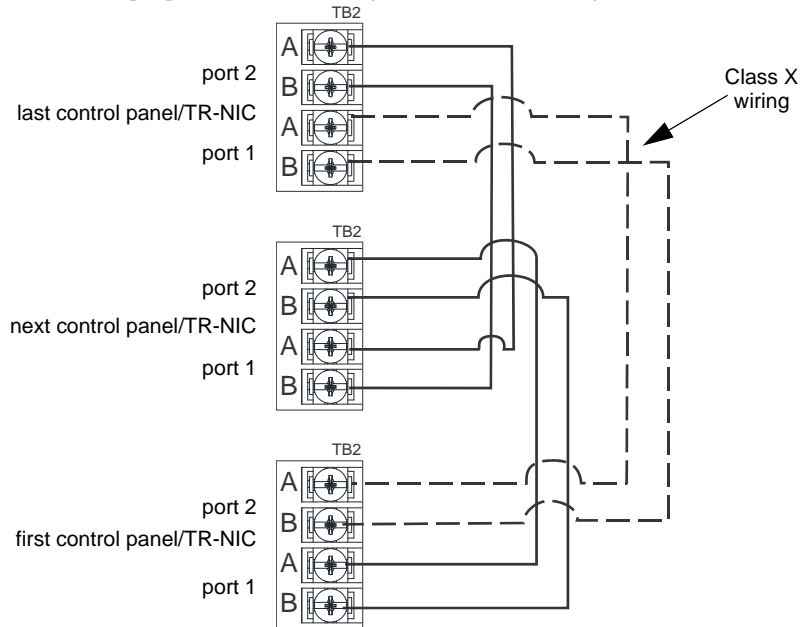
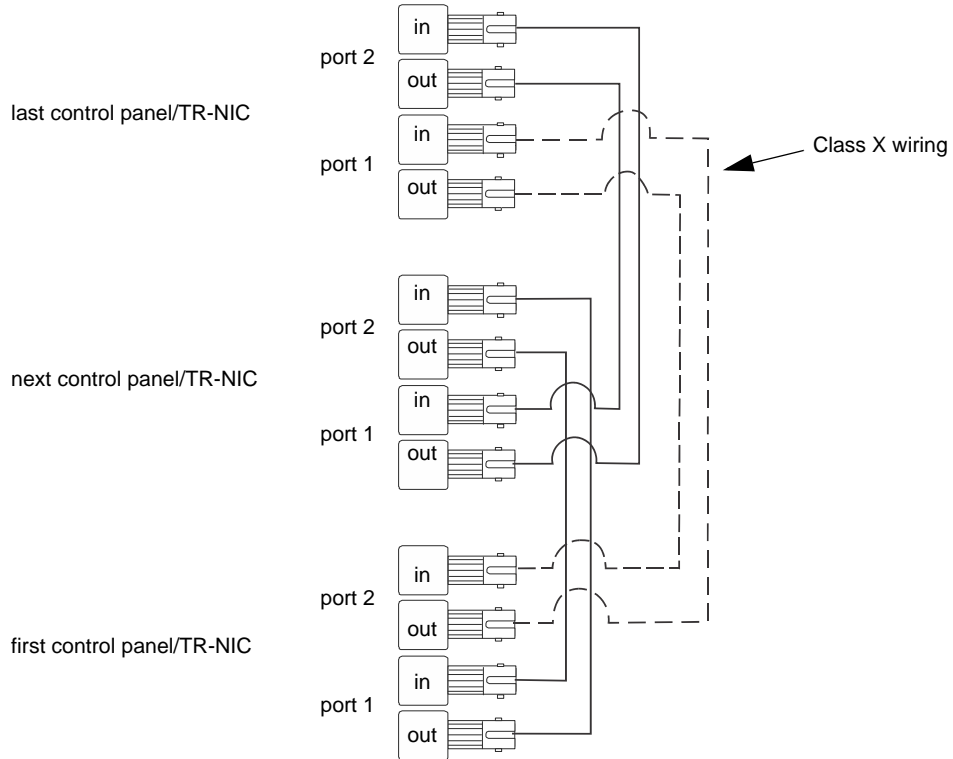
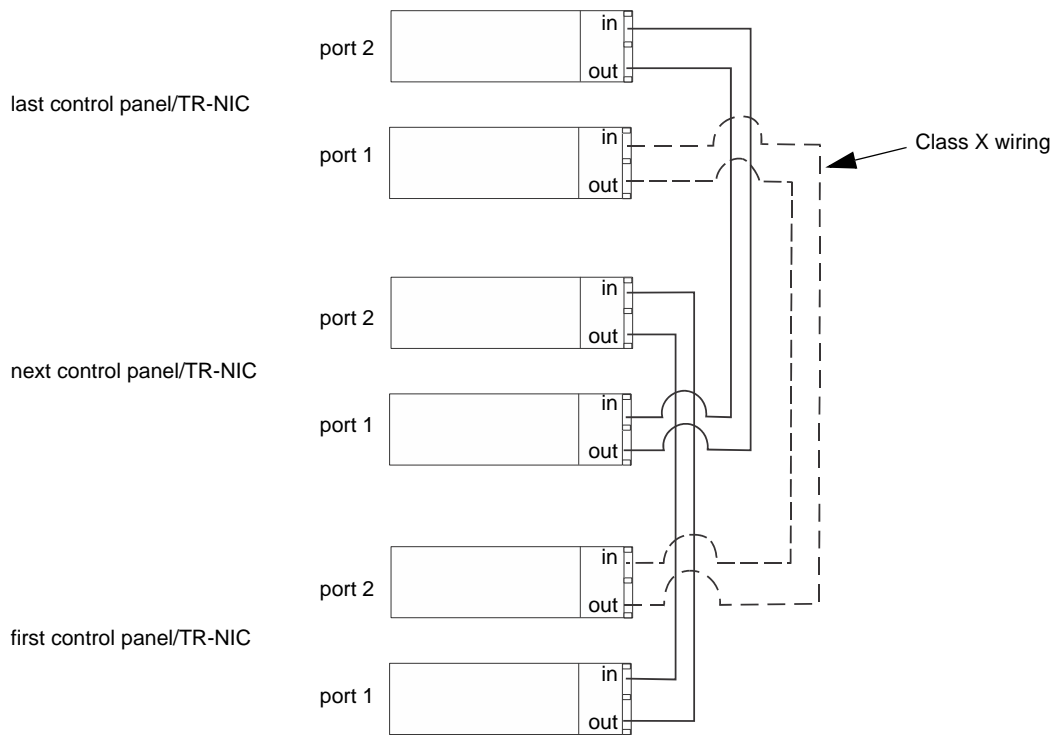
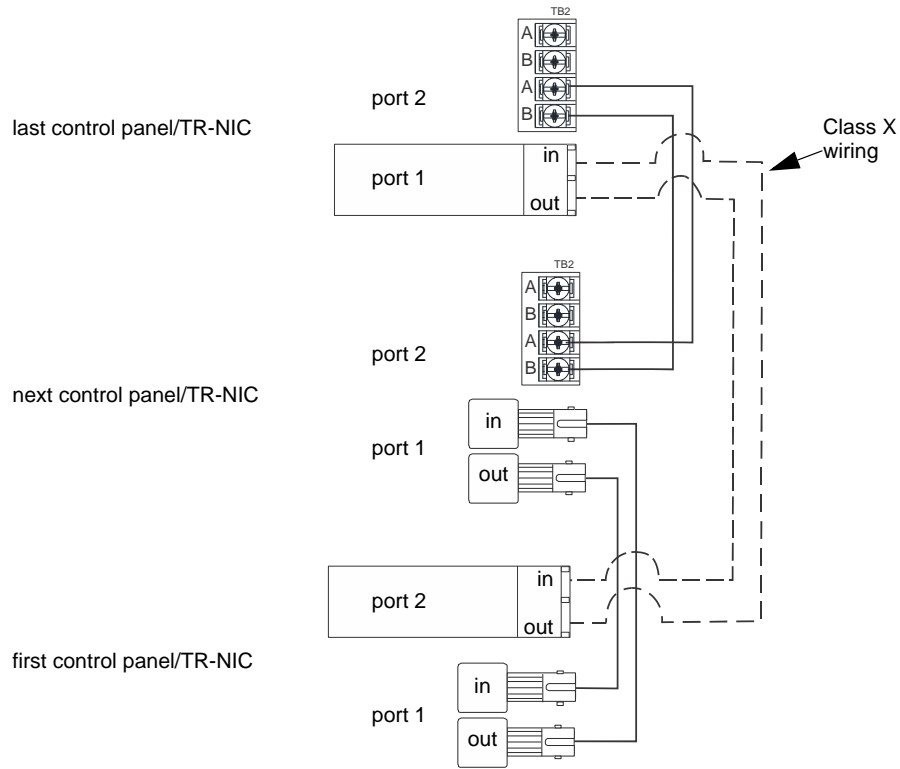

Figure 5.7 Twisted Pair Wiring Configuration
Figure 5.8 Fiber-Optic Wiring Multi-Mode Example
Figure 5.9 Fiber-Optic Wiring Single-Mode Example
Figure 5.10 Twisted-Pair and Fiber-Optic Combination Wiring Example
- Based on the type of data medium chosen, run the twisted pair wiring/fiber optic cable to the next TR-NIC using a class B or class A wiring method. A combination of both medium types can be used. See Figure 5.7, Figure 5.8, Figure 5.9, and Figure 5.10 for TR-NIC wiring examples.
Unshielded twisted pair wiring between multiple panels is shown in Figure 5.7. Class X wiring is shown with a dotted line.
Fiber optic cable between multiple panels is shown in Figure 5.8 and Figure 5.9. Class X is shown with a dotted line.
A mixture of fiber optic cable and twisted pair wiring between multiple panels is shown in Figure 5.10. Class X cabling is shown with dotted line.